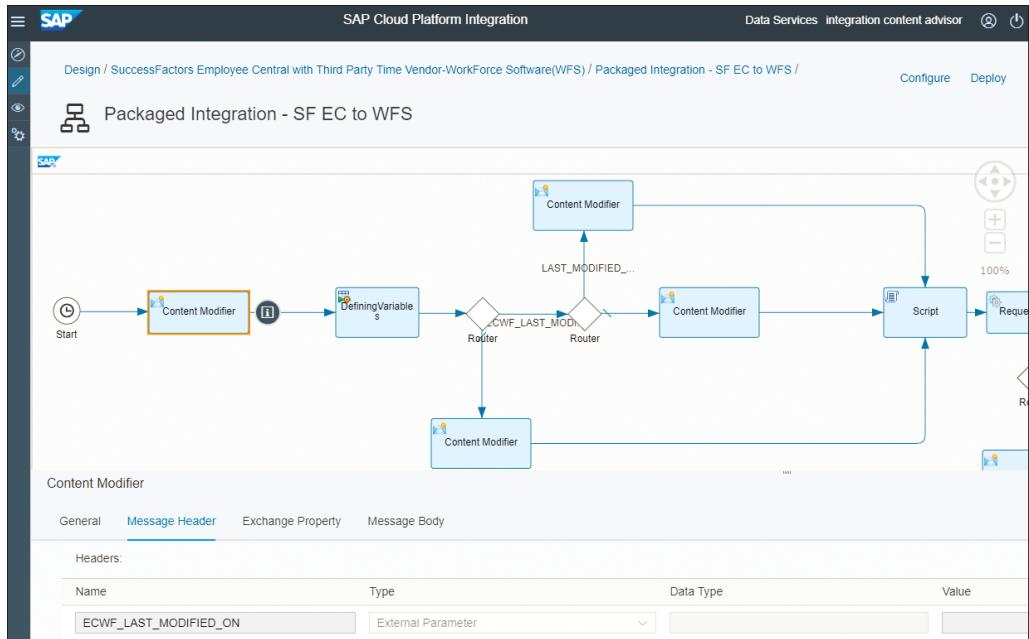

Figure 3.23 Deploying an Integration Flow
2. Click on the **Deploy** button on the top right of Figure 3.23.